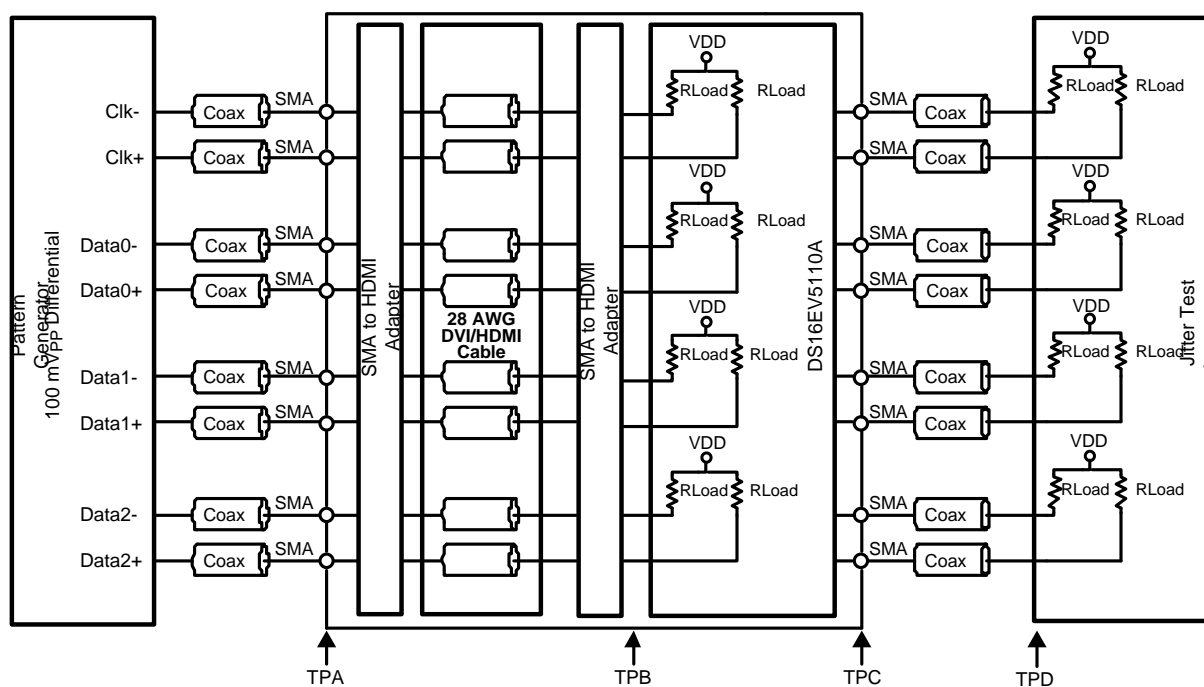

Figure 2. Test Setup Diagram for Jitter Measurement
(3) Allowed supply noise (mVP-P sine wave) under typical conditions.
(4) Specification is guaranteed by characterization and is not tested in production.
(5) Deterministic jitter is measured at the differential outputs (TPC of Figure 2), minus the deterministic jitter before the test channel (TPA of Figure 2). Random jitter is removed through the use of averaging or similar means.
(6) Total Jitter is defined as peak-to-peak deterministic jitter from 0 + 14.2 times random jitter in psrms.
(7) Random jitter contributed by the equalizer is defined as  $\sqrt{J_{OUT}^2 - J_{IN}^2}$ . JOUT is the random jitter at equalizer outputs in psrms, see TPC of Figure 2; JIN is the random jitter at the input of the equalizer in psrms, see TPA of Figure 2.